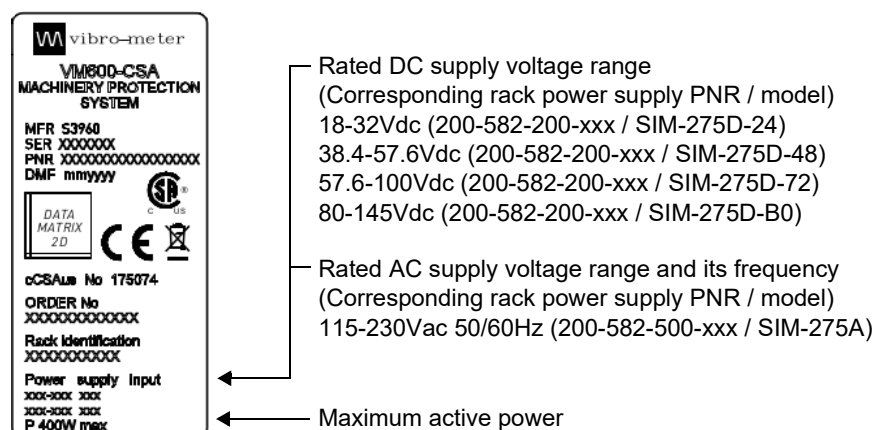

Figure 2-18: Example VM600SYS label (earlier versions of VM600 system racks)
- For earlier versions of VM600 system racks, a VM600SYS label on a rear panel provides the specifications for the RPS6U power supply inputs and additional information about the VM600 system such as order number (see Figure 2-18).